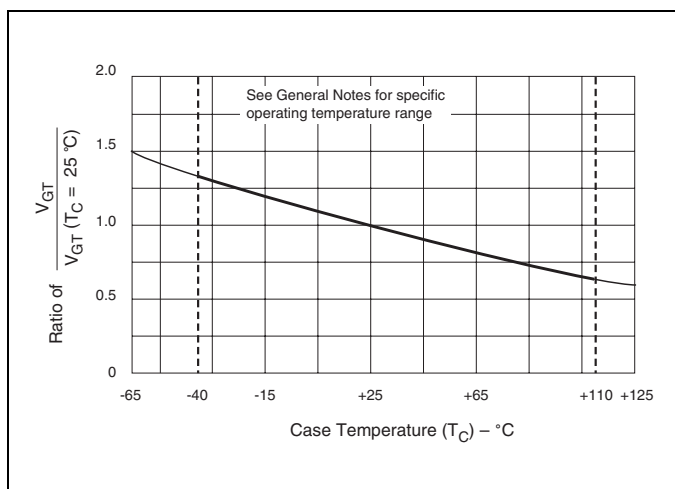

Figure E5.12 Normalized DC Gate-Trigger Voltage versus Case Temperature
- See Figure E5.12 for VGT versus TC or TL.